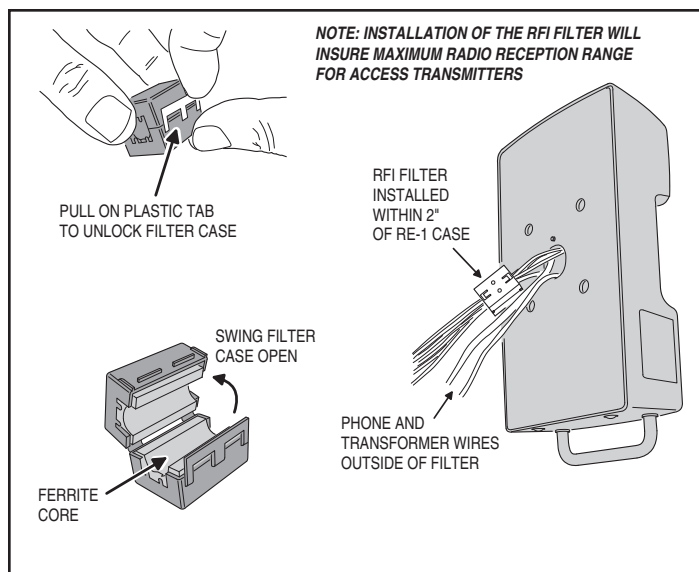

Figure 1. RFI Filter Installation
1. Open the ferrite RFI filter case by gently pulling on the side locking tab and swinging the case open (see Figure 1).
2. After completing the RE-1 installation, route all wires except the AC transformer and telephone lines through the groove in the ferrite core of the RFI filter. The filter must be installed outside of the RE-1 case. With the wires captured inside, close the ferrite RFI filter case and snap it shut (see Figure 1).